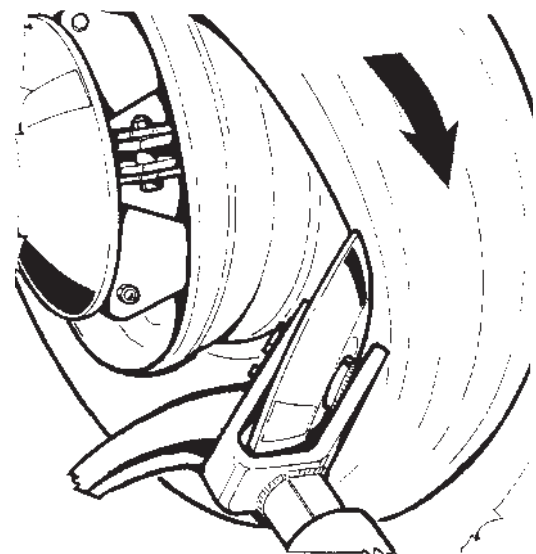

Fig.24
5. Demount the inner bead with the bead breaker disc, as described in chapter 5.0.6. (Fig.24).